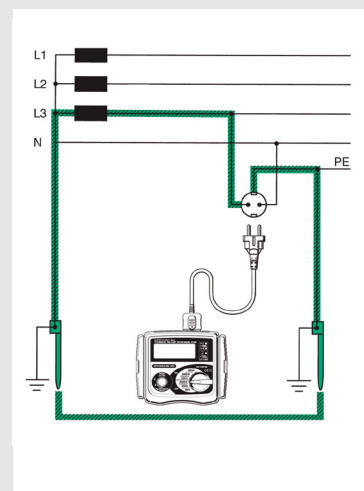

Fig.1 Earth fault loop impedance testing at socket outlet.
- Method of earth fault loop impedance testing at socket outlet. As shown in Fig.1, total earth fault loop impedance can be measured by plugging a loop tester into socket. The value of earth fault loop impedance measured represents the sum of transformer coil winding resistance, phase conductor (L3) resistance and protective conductor (PE) resistance as well as source earth resistance and installation earth resistance. With the loop tester set to any one of the PSC (prospective short circuit current) range, it is also possible to measure earth fault current.